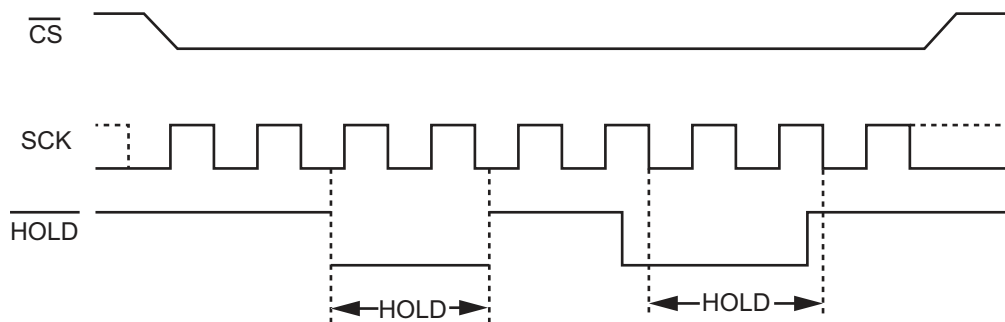

Figure 2. Hold Condition Activation
The Hold condition starts when the Hold ($\overline{\text{HOLD}}$) signal is driven Low at the same time as Serial Clock (SCK) already being Low (as shown in Figure 2).
The Hold condition ends when the Hold ($\overline{\text{HOLD}}$) signal is driven High at the same time as Serial Clock (C) already being Low. Figure 2 also shows what happens if the rising and falling edges are not timed to coincide with Serial Clock (SCK) being Low.